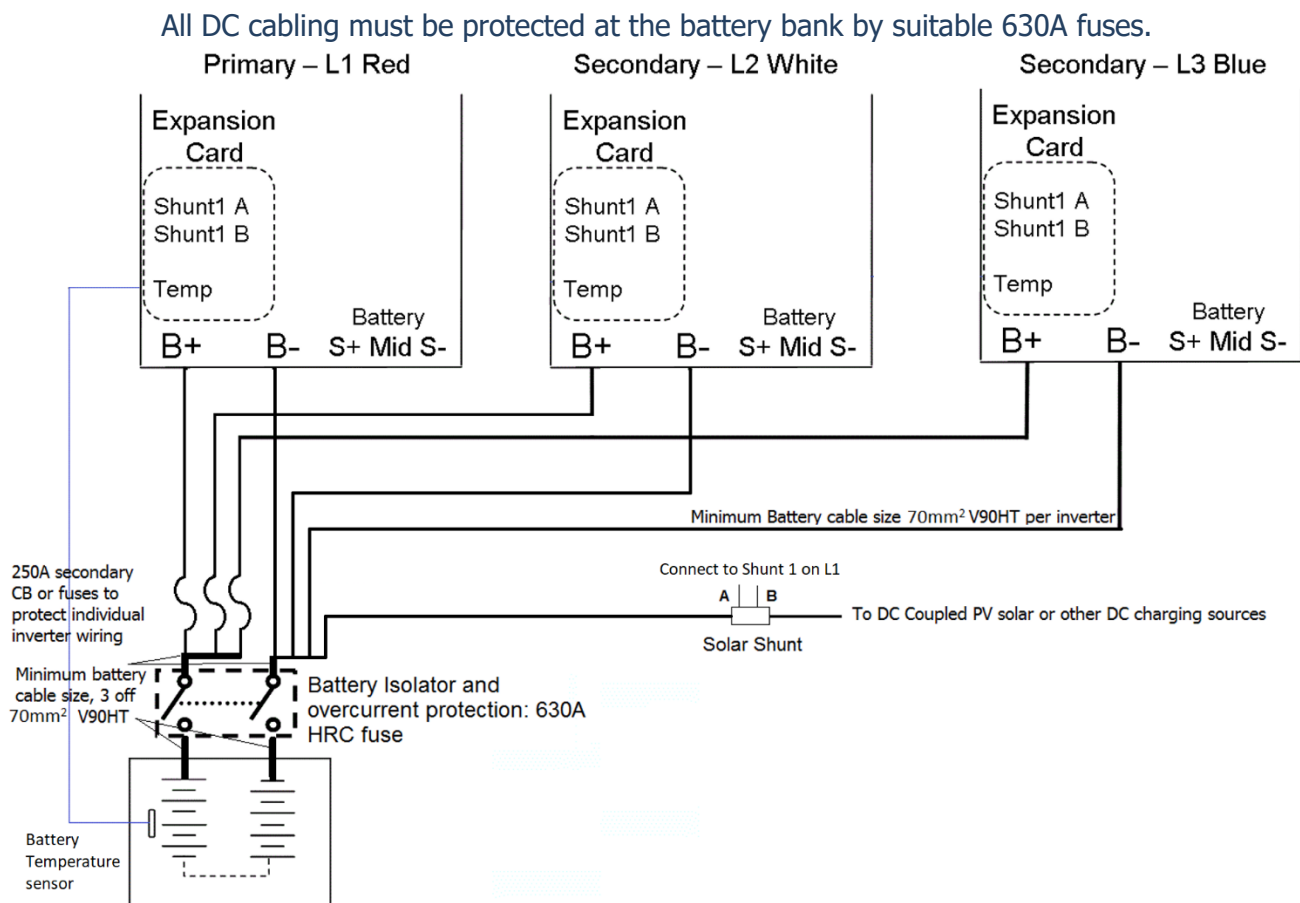

Figure 2: SP PRO Three Phase main DC wiring layout
The SP PRO Three Phase main DC wiring diagram is illustrated in Figure 2.
- Turn on the Battery Isolator (see Fig 2)